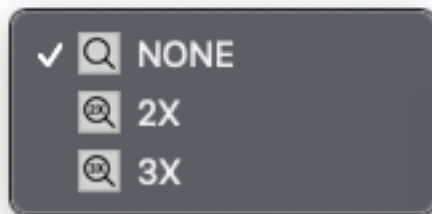

Figure 5-45 Magnifying glass magnification options
(1) Multiple menu: There are three multiple options, as shown in Figure 5-45. NONE turns off the magnifier.